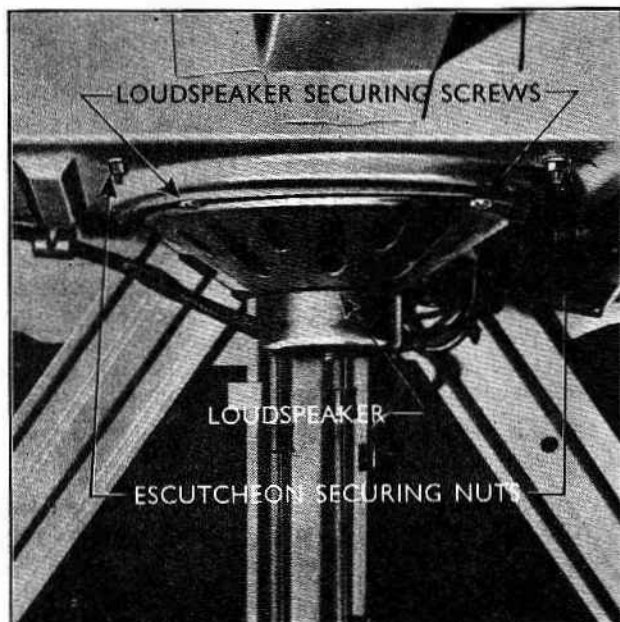

Fig. 586
- 2 From inside the luggage compartment, remove the four self-tapping screws securing the loudspeaker in position and remove it (see Fig. 586).